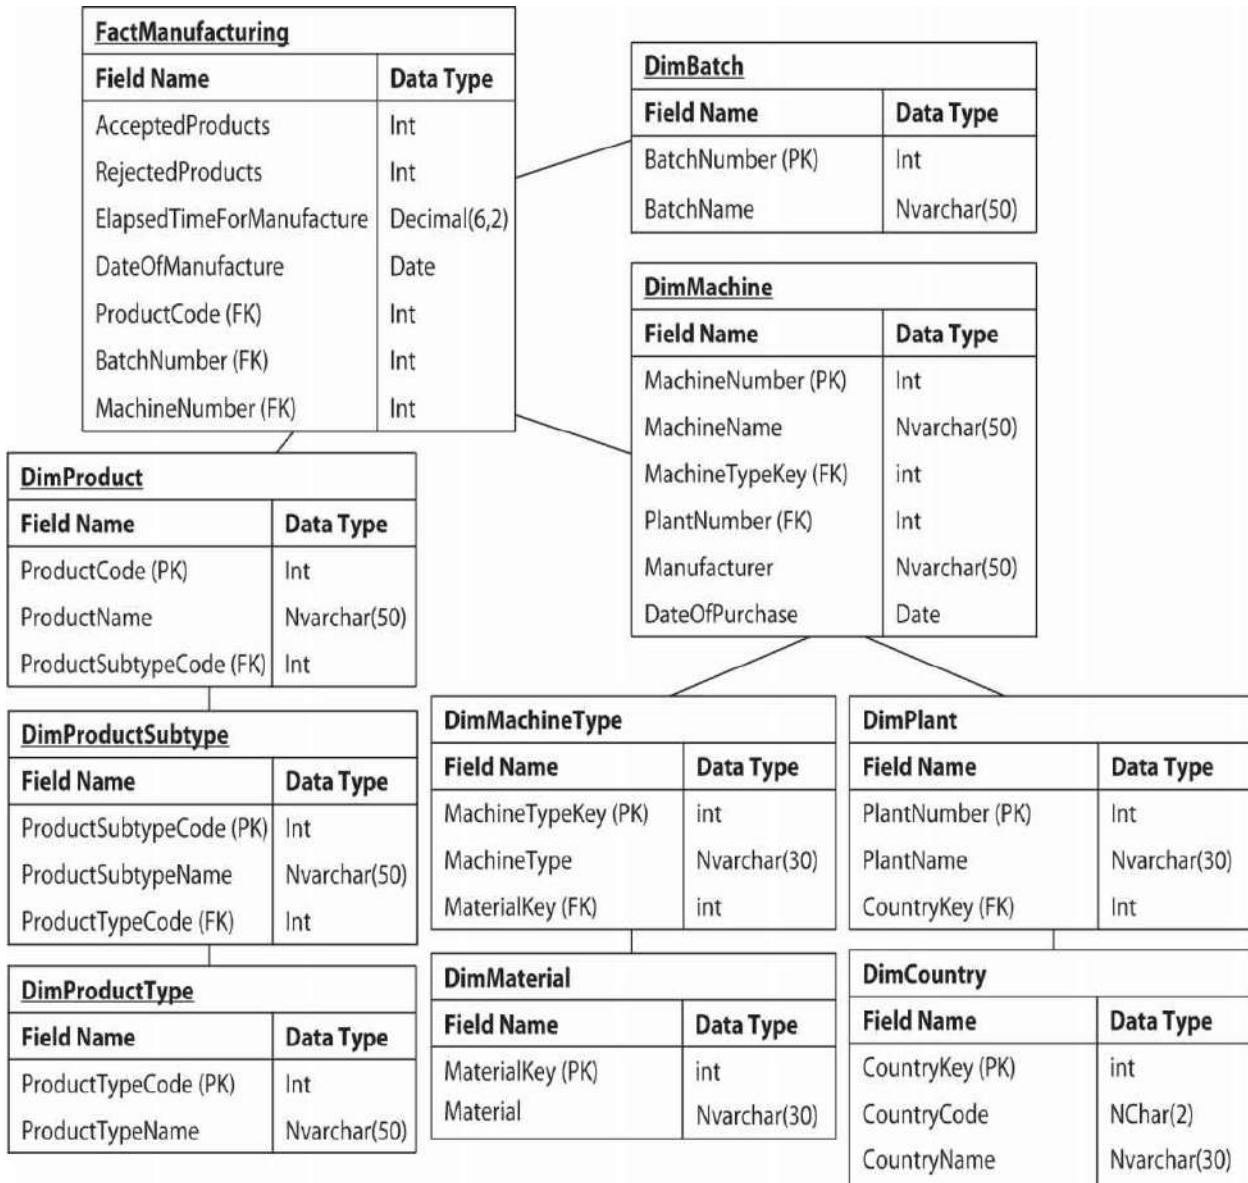
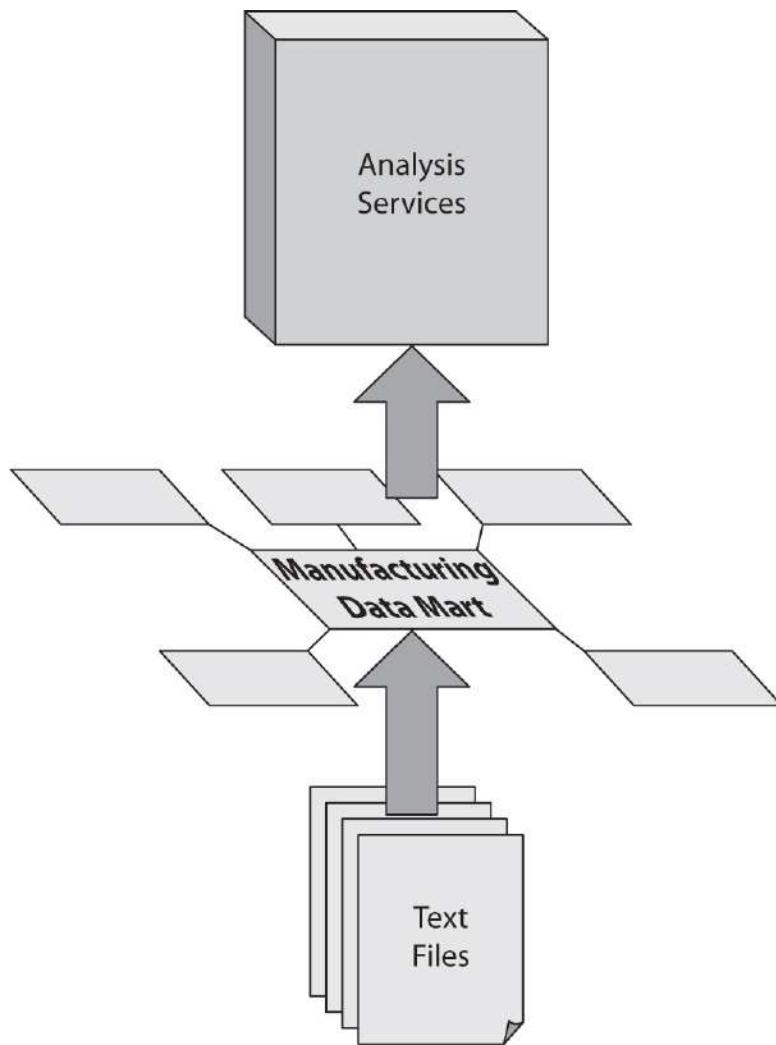

Figure 6-17 The completed Manufacturing data mart schema
Figure 6-18 Building the relational data mart
the fact table. Also, add the attributes to the dimension tables. The final Manufacturing data mart schema is shown in Figure 6-17. This may be a pretty funny-looking snowflake, but it is, indeed, a snowflake schema.
requests and the data available from the OLTP systems, it is time to turn that design into database tables. We are going to build the relational data mart as shown in Figure 6-18. We use the schema in Figure 6-17 to create a database with a fact table and several dimension tables.
8. Begin by creating the DimProduct table from the schema (see Figure 6-17). In the Properties window, enter **DimProduct** for (Name) and **Product Dimension populated from the Manufacturing Automation System export file.** for Description.
tables based on the schema in Figure 6-17. Be sure to uncheck Allow Nulls for all fields and to enter the appropriate data type and appropriate length. Also, create a primary key for each field that is followed by a (PK) in Figure 6-17. Finally, be sure to turn on Identity for the MachineTypeKey column in the DimMachineType table and for the MaterialKey column in the DimMaterial table.